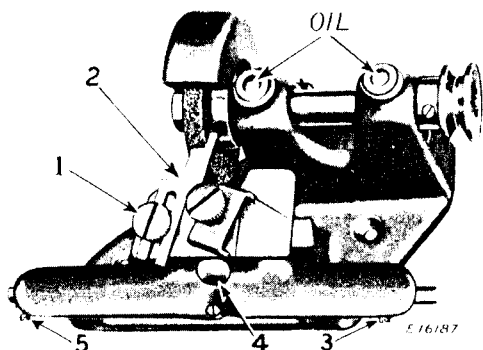

Fig. 23. Grinder 259536
Place knife (2, Fig. 23) in position on grinder and tighten thumb screw (1) as illustrated in Fig. 23.
Knife bracket can be moved closer to or away from the emery wheel by means of adjusting thumb screw (4, Fig. 23). The sidewise movement from right to left is controlled by loosening the screws (3 and 5, Fig. 23), moving the collars as desired and tightening screws (3 and 5).
Apply oil regularly to the two ball oilers indicated by arrows in Fig. 23. This will lubricate the bearings of the grinder shaft.